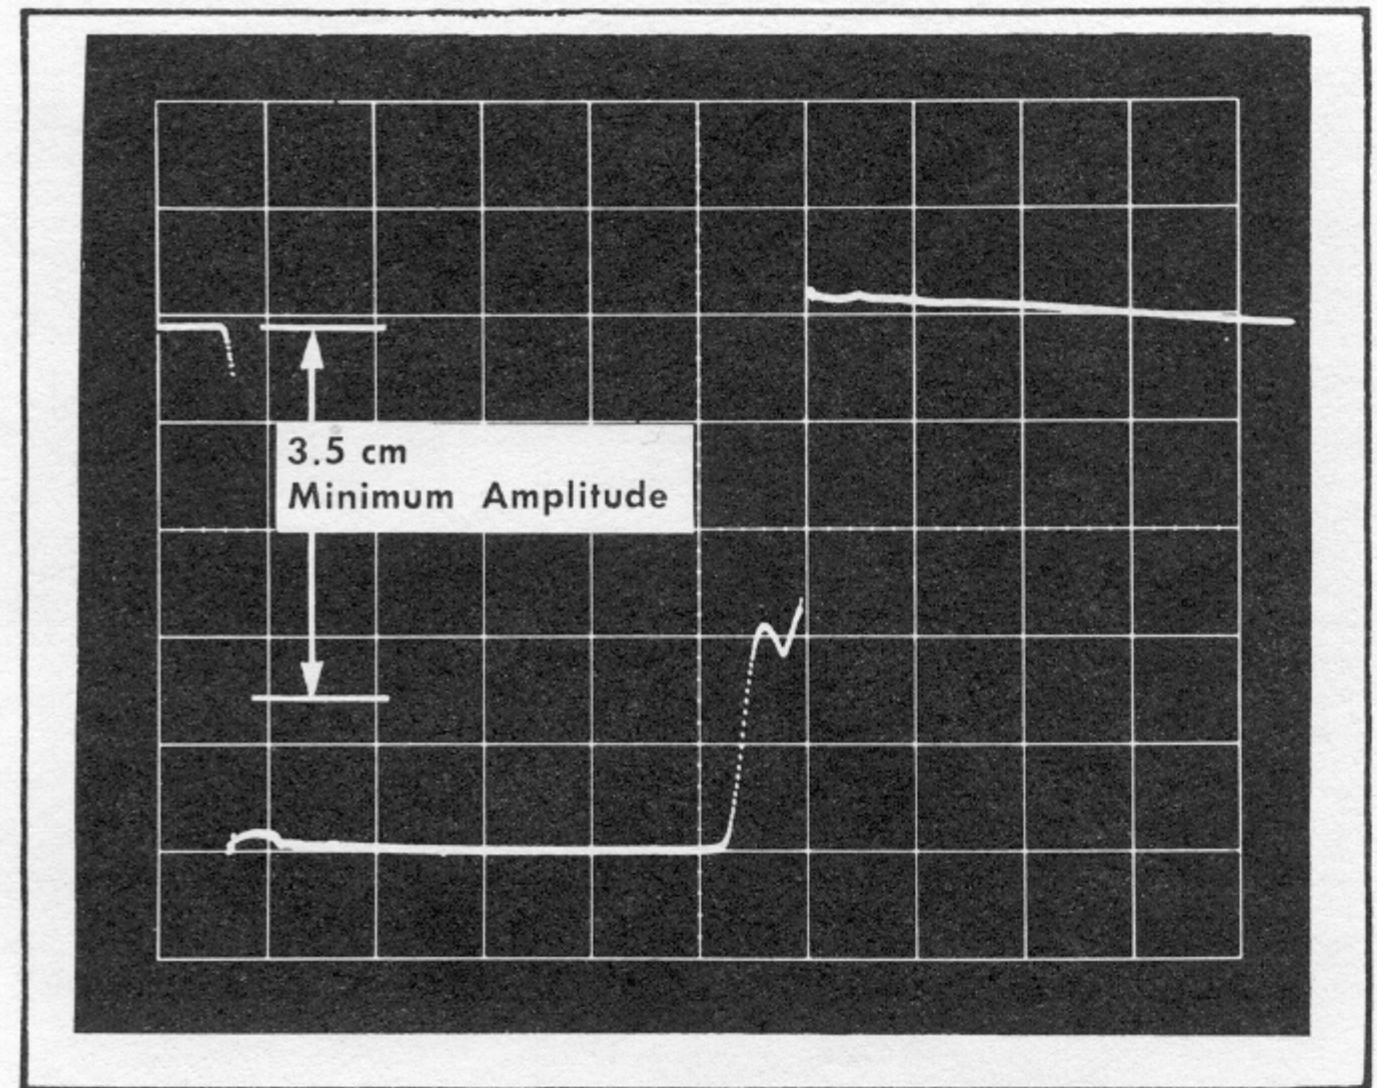

Fig. 5-4. Delayed Pulse amplitude check.
e. Check—Delayed pulse amplitude is 3.5 cm or more (0.35 volts or more), as marked in Fig. 5-4.